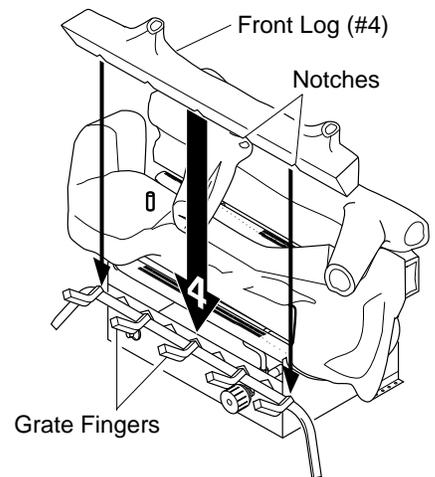

Figure 24 - Installing Front Log (#4)
4. Locate the notches in the bottom of the front log (#4). Place the front log on the grate fingers. Make sure the notches of the front log line up with the grate fingers (see Figure 24).